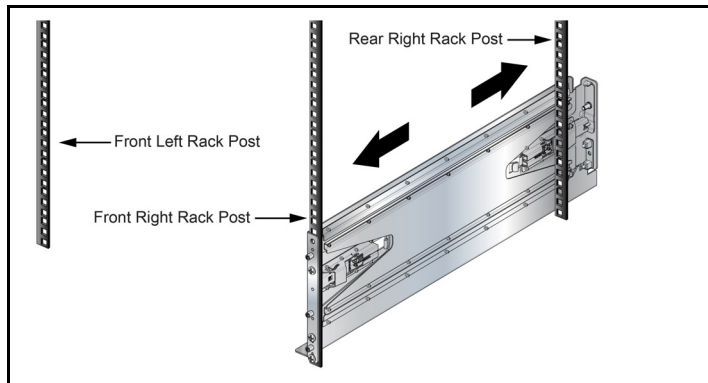

Figure 9: Adjusting the Right Shelf
Step 4 Glide the slide-end to a position outside of its rear rack post (Figure 9).